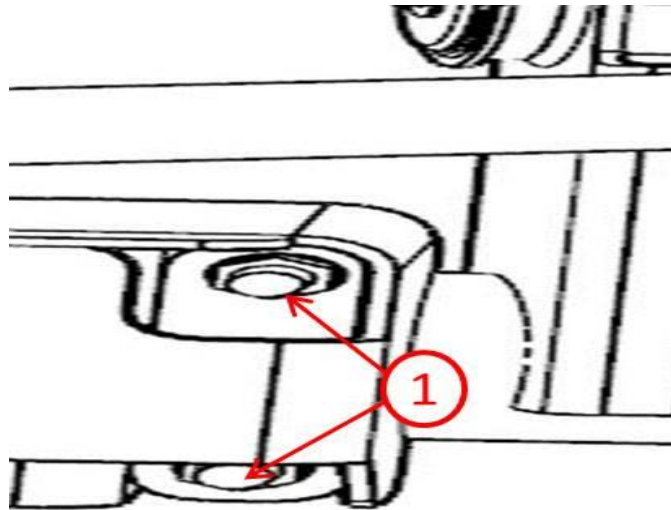

Fig. 5 U Bolt Nuts
14. Tighten the nuts for the U-bolt to 54 N·m (40 ft-lbs) (**Fig. 5**).